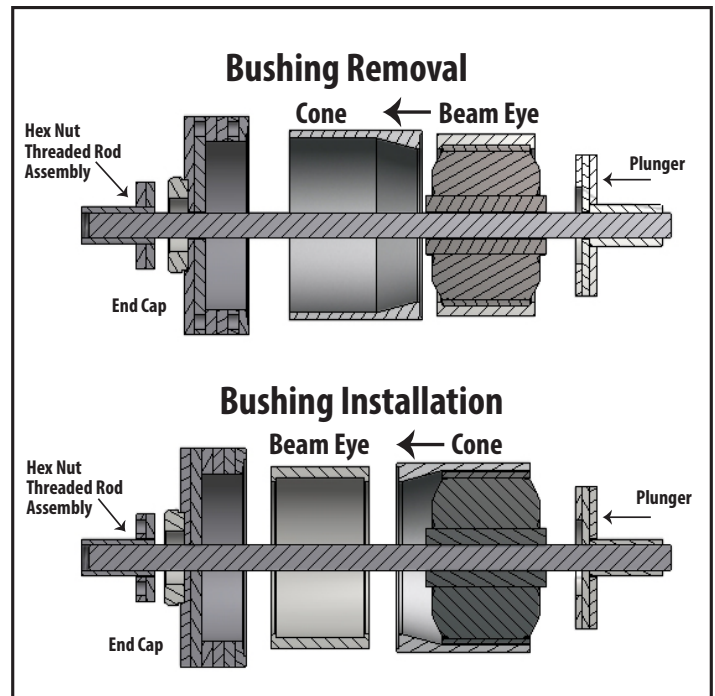

Figure 9.
4. Assemble the bushing replacement tool and place on the eye of the beam (Figure 9).